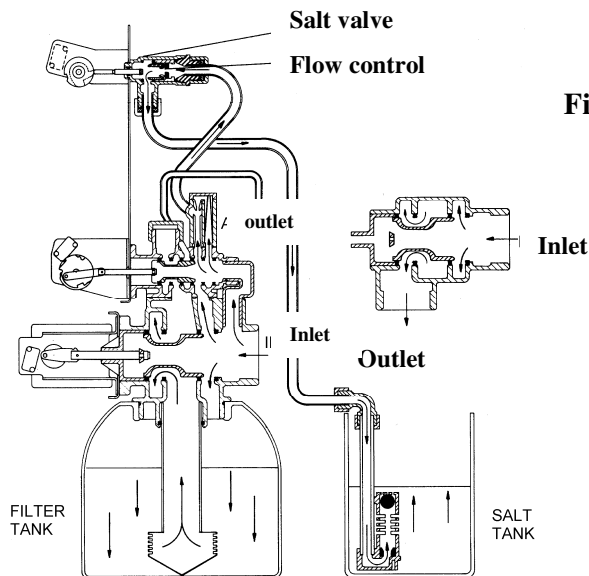

Figure 10
5. Connect power to the control valve and turn the dial gradually until the cylinder units are in position "brine fill". See figure 10 page 13. Immediately open connection valve for incoming water and leave the power on.